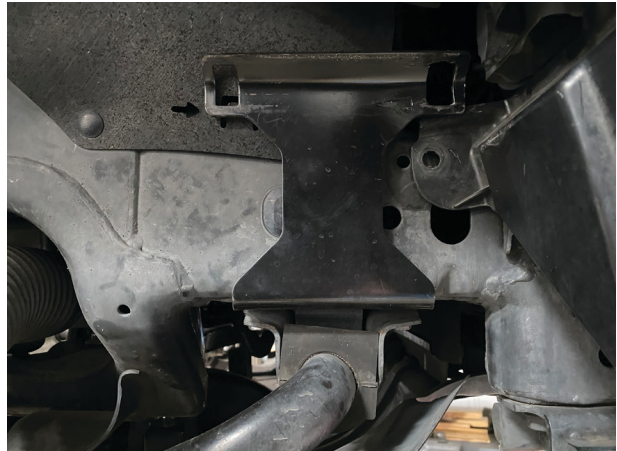

Fig. 8: Install the reservoir bracket.
13. On external reservoir models, reuse the factory sway bar bolts to install the Group B reservoir bracket between the sway bar and vehicle frame (Fig. 8). Slide the bracket against the vehicle frame and torque to OE specifications.